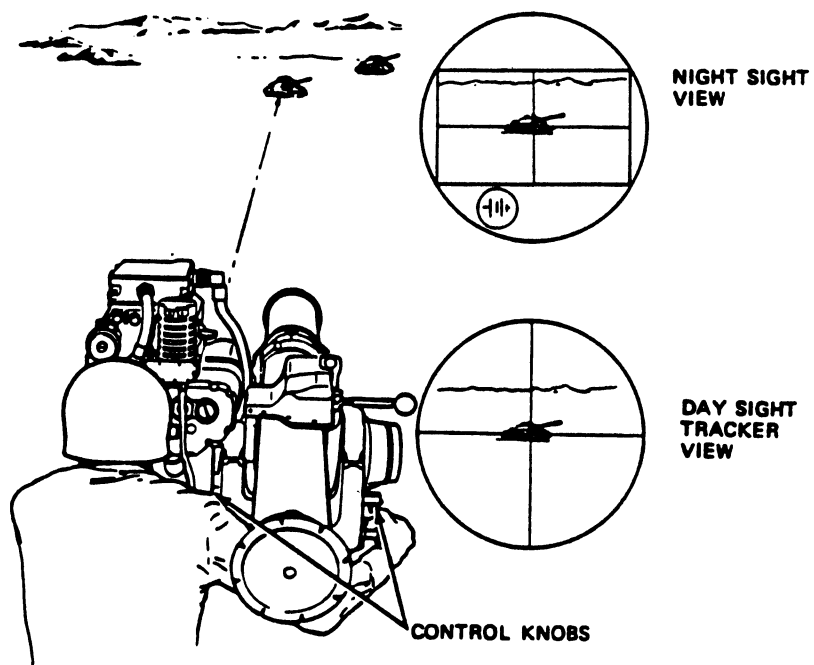

Fig 4-42. Tracking the target.
Step 5. Turn the control knobs to track the target, keeping the crosshairs on the center of the target (fig 4-42).